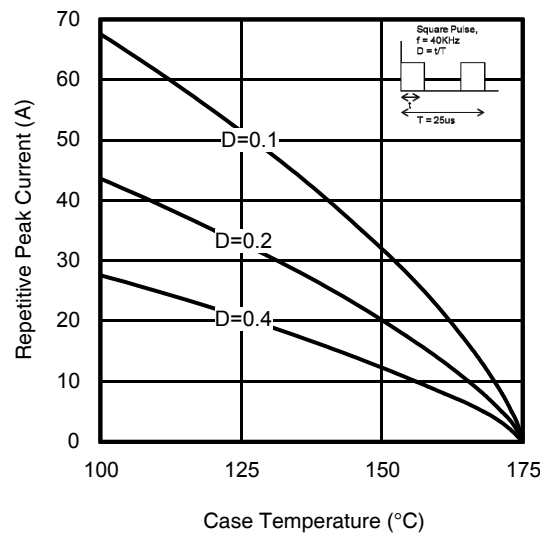

Fig. 26. Maximum Diode Repetitive Forward Peak Current vs. Case Temperature
- ① V_{CC} = 80% (V_{CES}), V_{GE} = 20V, R_G = 10Ω, L = 210μH.
- ② R_θ is measured at T_J of approximately 90°C.
- ③ Refer to AN-1086 for guidelines for measuring V_{(BR)CES} safely.
- ④ Pulse width limited by max. junction temperature.
- ⑤ Values influenced by parasitic L and C in measurement.
- ⑥ f_{sw} = 40KHz, refer to figure 26.